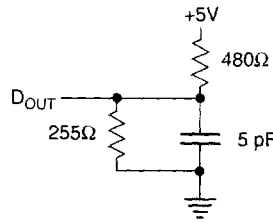

Figure 2. Output Load Equivalent
5. Transition is measured  $\pm 500$  mV from steady-state voltage with load of Figure 2. This parameter is sampled rather than 100% tested. At any given voltage and temperature, tCHZ max is less than tdc1 min for a given device and from device to device.